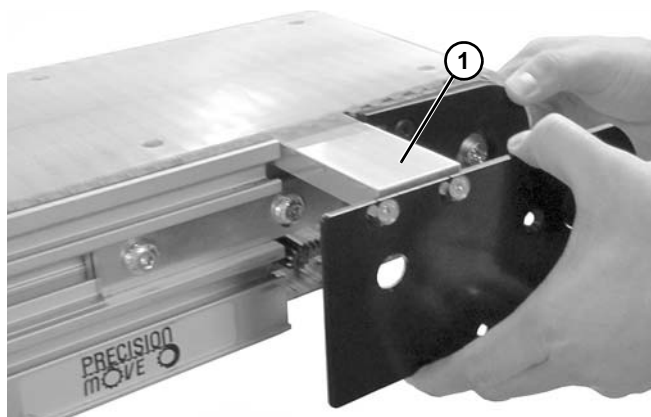

Figure 24
10. Remove gap filler plate assembly (**Figure 24, item 1**).